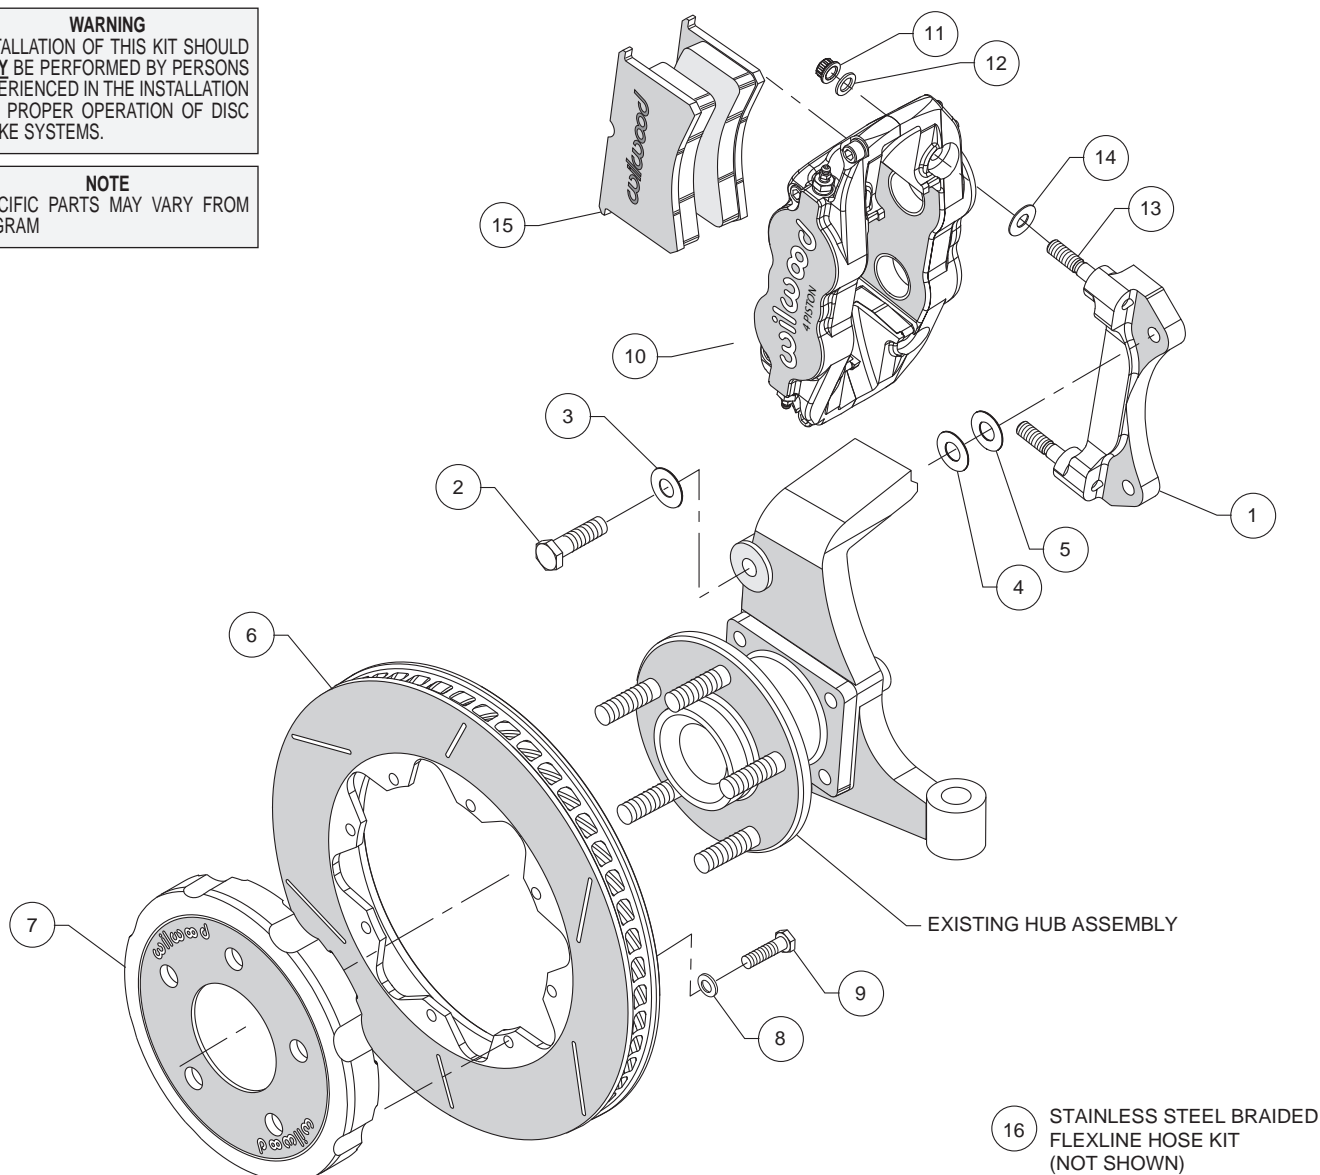
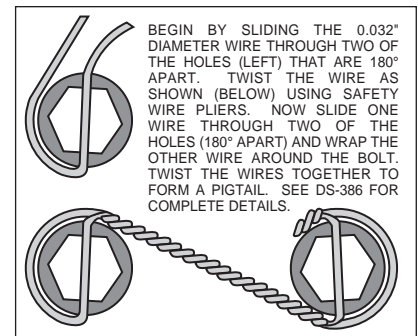

Figure 1. Typical Installation Configuration
Figure 3. Safety Wire Diagram
- The caliper mount bracket assembly (1) should be installed first with clean, dry threads on the mounting bolts. Install the bracket on the inboard side of the spindle by sliding bolt (2) through flat washer (3), and spindle ear from the outboard side of the spindle. Place two shim washers (4) between the bracket (1) and the spindle (see figure 1). The bracket must tighten squarely against the inboard side of the caliper mount bosses on the spindle body. Inspect for interference from casting irregularities, machining ridges, burrs, etc. Later, after the caliper, pad, and rotor alignment has been checked, and any necessary shims have been put in place, the mount bolts should be coated with red *Loctite*® 271 and torqued to 65 ft-lbs.
- With the larger I.D. side of the rotor (6) facing away from the hat (7), attach the rotor (6) to the hat (7) using washers (8) and bolts (9) as shown in Figure 1. Using an alternating sequence, apply red *Loctite*® 271 to the threads and torque bolts to 25 ft-lb. For an added measure of security, the bolts may be safety wired using standard 0.032 inch diameter stainless steel safety wire as shown in Figure 3. Please refer to Wilwood's data sheet DS-386 (available at www.wilwood.com/Pdf/DataSheets/ds386.pdf) for complete safety wire installation instructions.